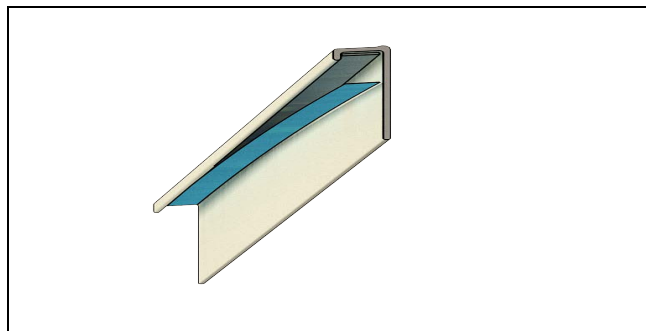
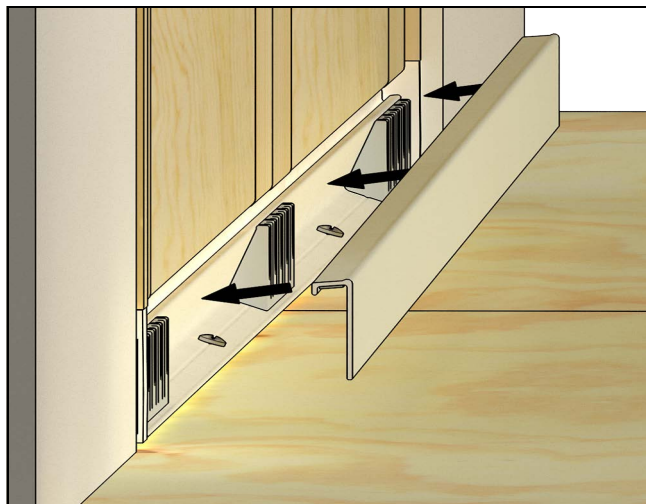

Figure 28
Figure 29
3. Locate and remove tape backer on the interior sill liner. See Figure 28. Press down and fully seat the sill liner. See Figure 29